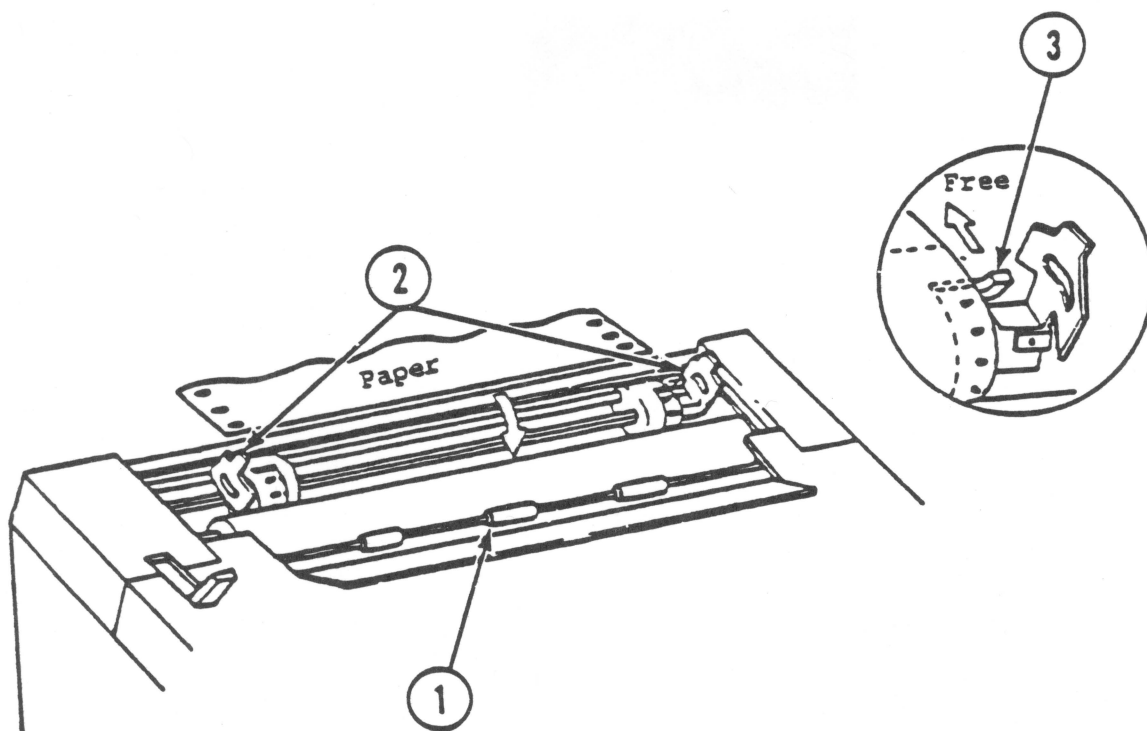

FIGURE 2
**SILENTYPE PRINTER (Figure 2)**
5. Pull the paper roller shaft forward. (See Figure 2, #1.)
6. Lift the covers off the right and left tractor sprockets. (See Figure 2, #2.)
7. Make sure the left tractor is all the way over to the left. To adjust the tractor, push back the white lever. (See Figure 2, #3.) Move the tractor all the way over to the left. To lock the tractor in place, pull the white lever back toward you.